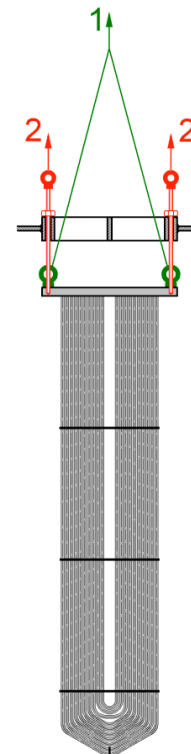

Figure 10c. Lifting the tube bundle towards the header frame in the top plate.
- 6) Lift the tube bundle by means of four M16 eyebolts (see fig. 2) from below into position. See lifting method "1" of fig. 10c.
- 3) Lift the tube bundle (refer to fig. 2) until just below the header frame, but leaving sufficient space to remove the eyebolts. (See "1" of fig. 10c.)